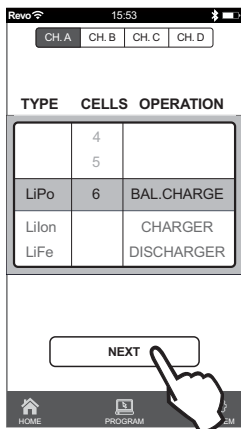

Figure 1
3. Select battery type, cells and charging methods. (Figure 1)